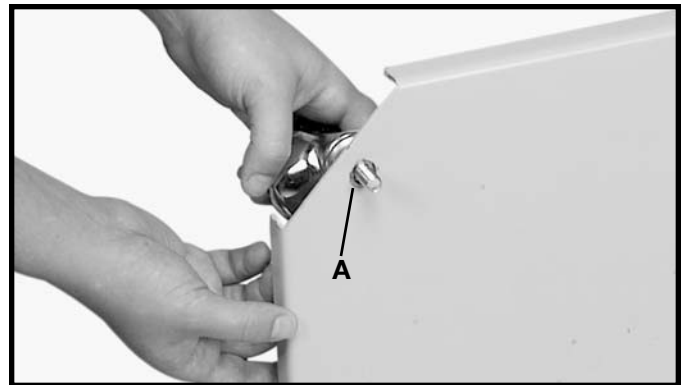

Fig. 3
2. Insert bolt from wheel caster through the four holes (A) Fig. 3 in the base of the dust collector (three are not shown).